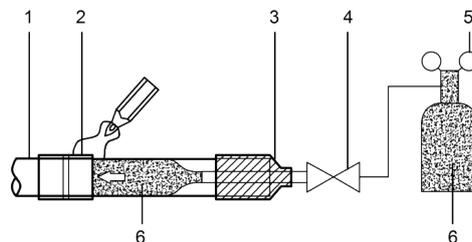

Figure 14.
- When the pipe is filled with nitrogen during welding, the nitrogen must be reduced to 0.02 MPa using the pressure release valve. See Figure 14.